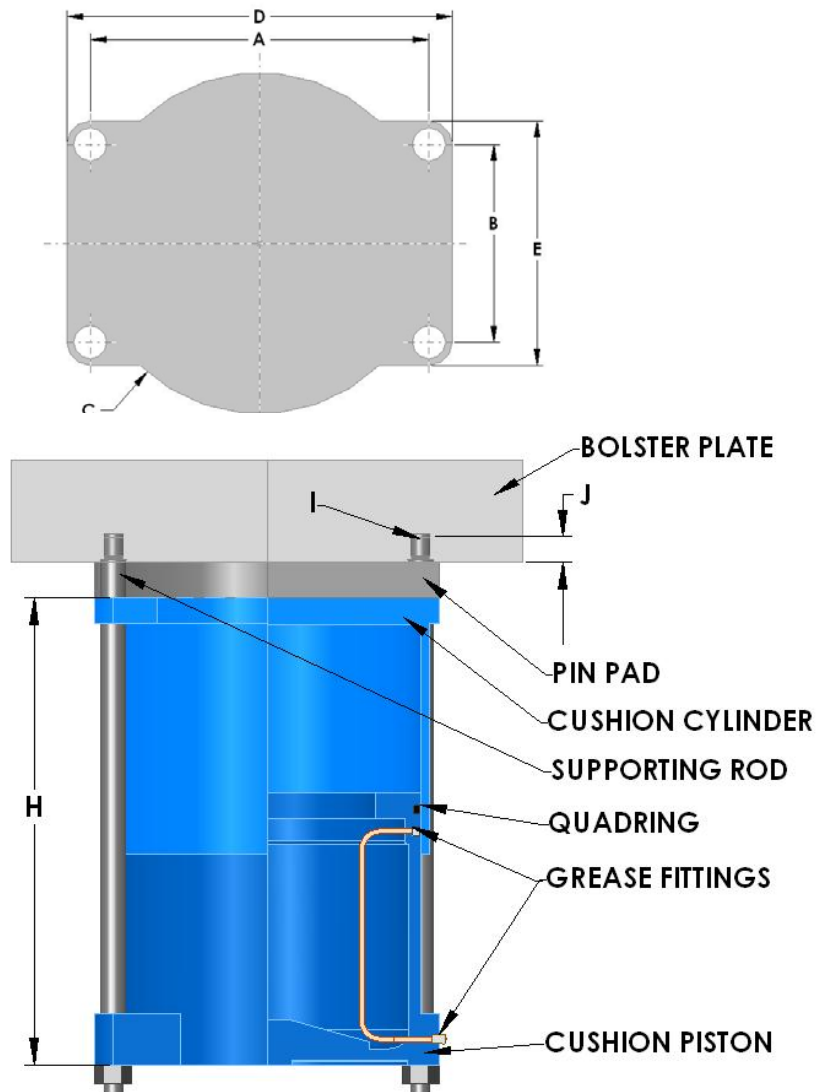

Fig. 4 Bolster plate mounted Model C cushion.
(1) The die cushion should be mounted to the bolster plate so that it is centrally located with reference to the opening in the press bed (See Fig. 4). To accomplish this it is advisable to scribe the press bed opening on the underside of the bolster plates before removing it from the press. This outline will locate the relative position for attaching the die cushion,